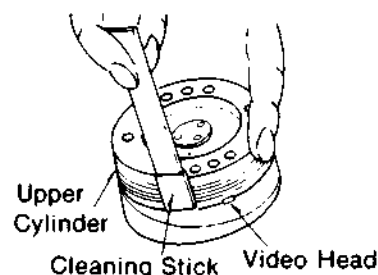

Fig. 1-19
- Position the video head to permit access for cleaning and hold the upper cylinder to keep it from turning while cleaning, see Fig. 1-19.